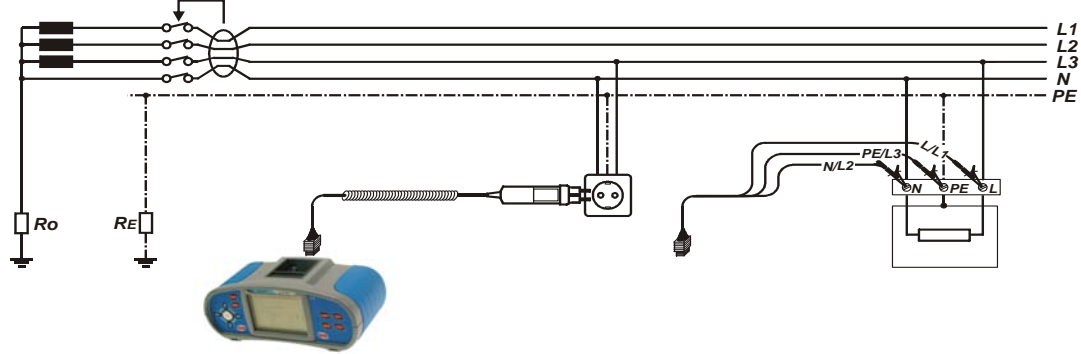

Figure 5.13: Connecting the plug commander and the universal test cable
- ❑ **Connect** test leads to the tested object (see figure 5.13).
- Connect** test leads to the tested object (see figure 5.13).
<ul style="list-style-type: none"> <li>❑ Select the RCD function.</li> <li>❑ Set sub-function AUTO.</li> <li>❑ Set test parameters (if necessary).</li> <li>❑ Connect test cable to the instrument.</li> <li>❑ Connect test leads to the tested object (see figure 5.13).</li> <li>❑ Press the TEST key.</li> </ul>	Start of test